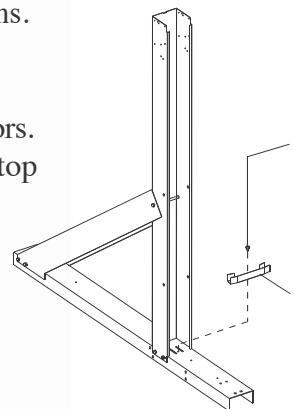

Fig. 10
D) Now you can install the straight side bottom rail connectors. Use one per strap end channel. Place the connector on top of the strap end channel so that the open part of the connector sits inside the straight side upright. The hole in the straight side connector will line up with the hole between the two slots on the strap end channel. Secure the piece using a #12 x 3/4" screw. See Fig.10 for visual instructions.